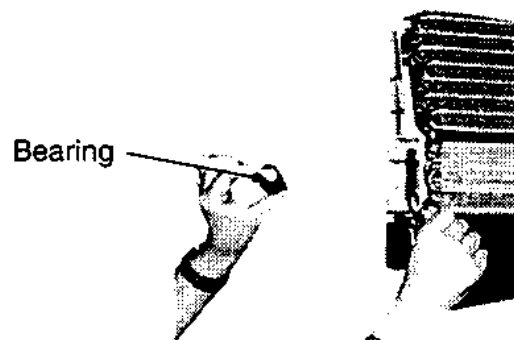

Fig. 11
3. Pull off the Bearing at the left of the Cross Flow Fan. (Fig. 11)